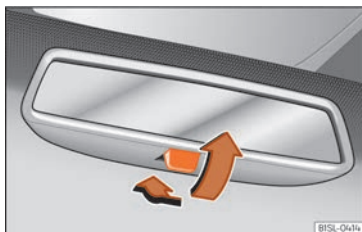

**Fig. 123** Manual anti-dazzle function for rear vision mirror
- Pull the lever to the back to select the anti-dazzle function »» Fig. 123.